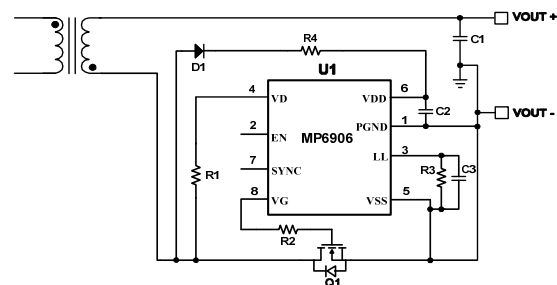
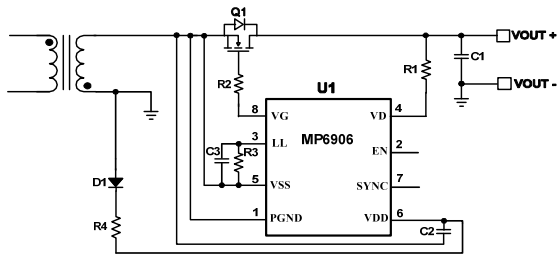

**Figure 10: IC Power Derived from the Auxiliary Winding in Low-Side Rectification**
**Figure 11: IC Power Derived from the Auxiliary Winding in High-Side Rectification**
If the output voltage is out of the  $V_{DD}$  operating range or high-side rectification is used, an auxiliary winding solution for the IC's power supply is recommended (see Figure 10 and Figure 11). The auxiliary winding turn count ( $N_{au}$ ) can be set using Equation (2):